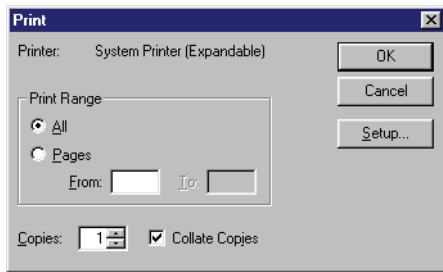

Figure 7-8: Print Window
3. In the central field, click on the  button. The Print window will appear (see Figure 7-8).